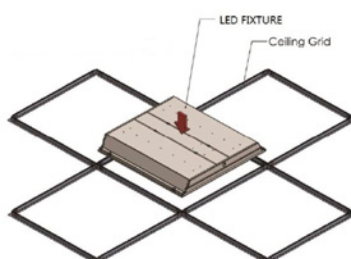
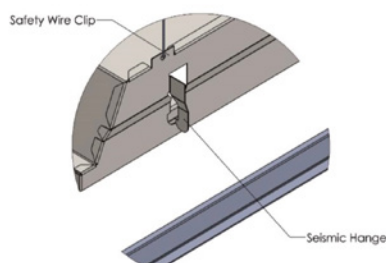
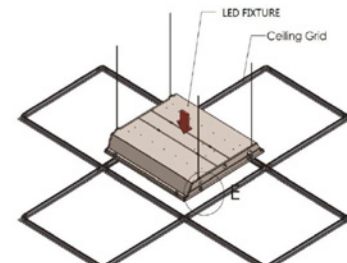

FIG. 2
FIG. 3
FIG. 4
**TROFFERS / PARABOLIC / DIRECT/INDIRECT - T-GRID CEILING (Fig. 2):** Start on one side and gently lay down the fixture in the T-Grid ceiling by opening the seismic hanger on each end (Fig. 3) 180° to engage ceiling grid frame. Safety wire tab on the back of the troffer bends up easily to accept wire from the ceiling structure. Thread wire through the tab and finish installation as any other grid fixture (Fig. 4).